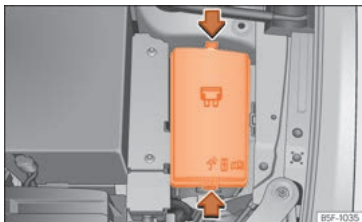

Fig. 105 In the engine compartment: lid of the fuse box.
- Press the locking tabs to release the fuse box cover » » » **Fig. 105.**